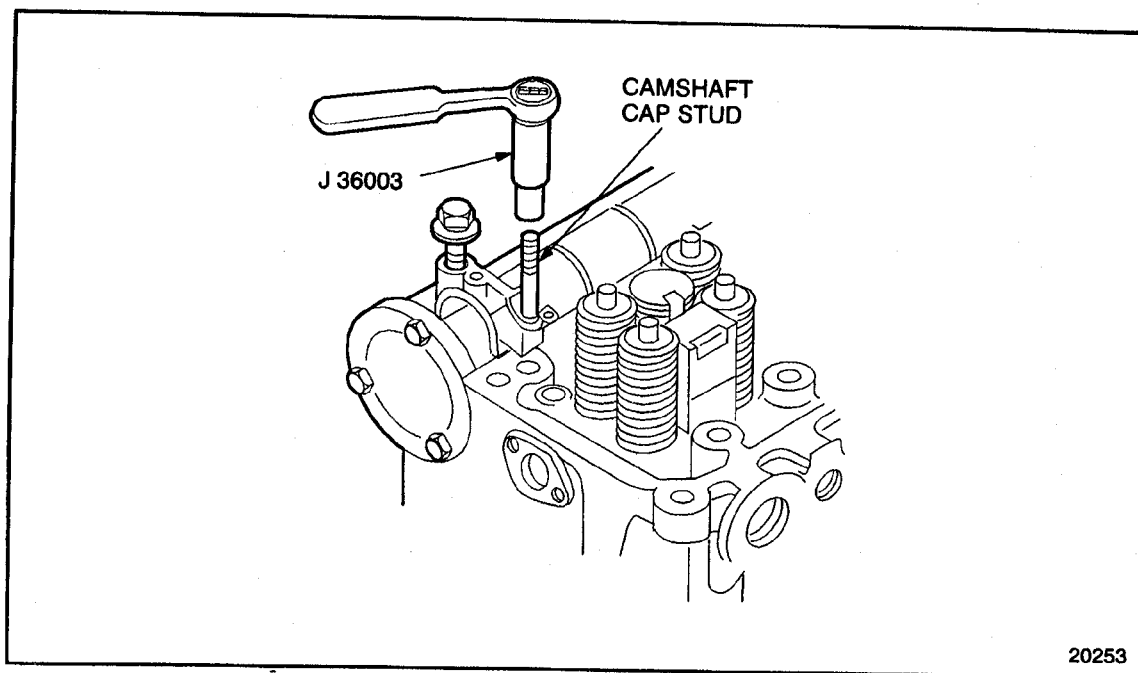

Figure 1-341 Camshaft Cap Stud Removal
14. Remove the remaining seven camshaft cap bolts. Remove the No. 1 and 7 studs using socket tool, J 36003 part of J 36003-A. See Figure 1-341.